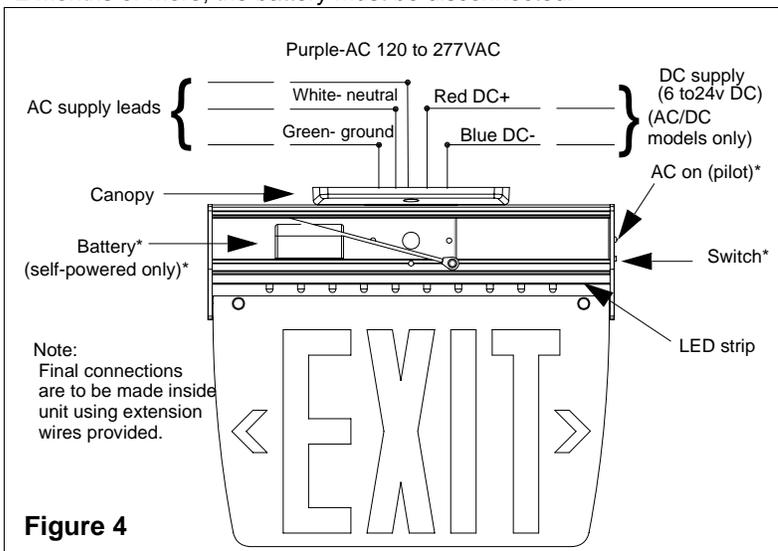

Figure 4
- a. Extend the AC supply leads with the extension wires supplied (follow the electrical wiring in figure 4).
- c. Feed the supplied wires through the center hole of the canopy then attach it to the spider plate using the screws provided (6).
- d. Remove the knock out towards the inside with a screwdriver. Feed the supplied wires through the center hole and mount the housing to the canopy with the screws provided (4).
- c. Extend the AC supply leads with the extension wires supplied (follow the electrical wiring in Figure 4).
6. Make the proper connections, our system accepts an input voltage of 120 to 277 VAC (see figure. 4). Connect the purple and white leads to the building utility. Connect the green ground wire to the service ground or the ground connection in the junction box.